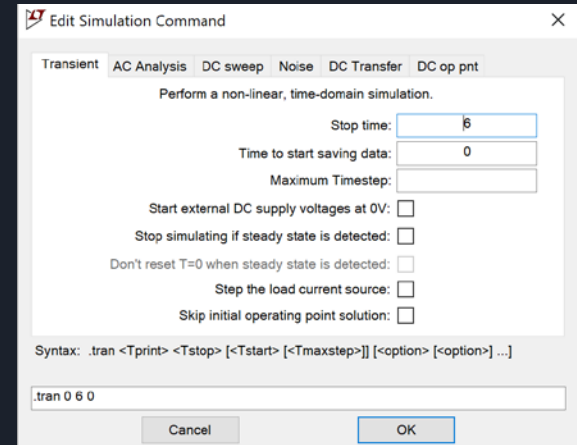

Figure 8.
- Next, enter the Stop time of 6s as shown in figure 8 and then click 'OK'.